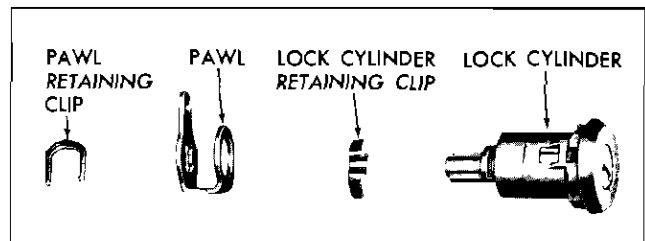

Fig. 2-17 Front Door Lock Cylinder
2. Remove pawl retaining clip, pawl and lock cylinder retaining clip (Fig. 2-17).